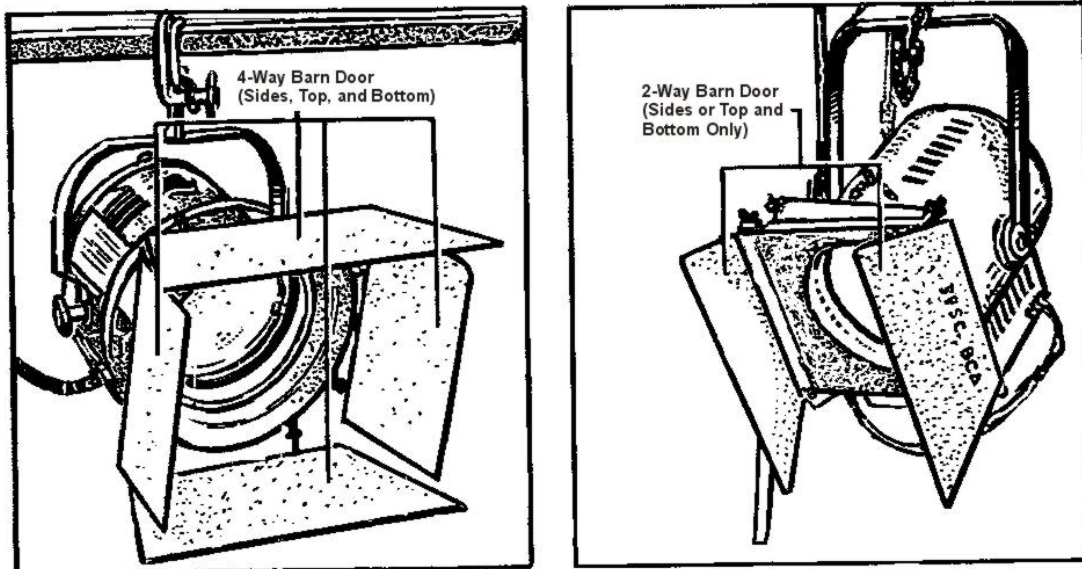

Figure I-13. Barn Doors
(1) Barn doors (Figure I-13) are extremely effective when it is necessary to block certain set areas, either partially or totally, from illumination. For example, if it is necessary to keep the upper part of some scenery dark, while illuminating the lower part of that same scenery, you could simply "barn door" the upper half of the beam. Barn doors are also important for blocking the backlight from shining into the camera lens, causing lens flare.